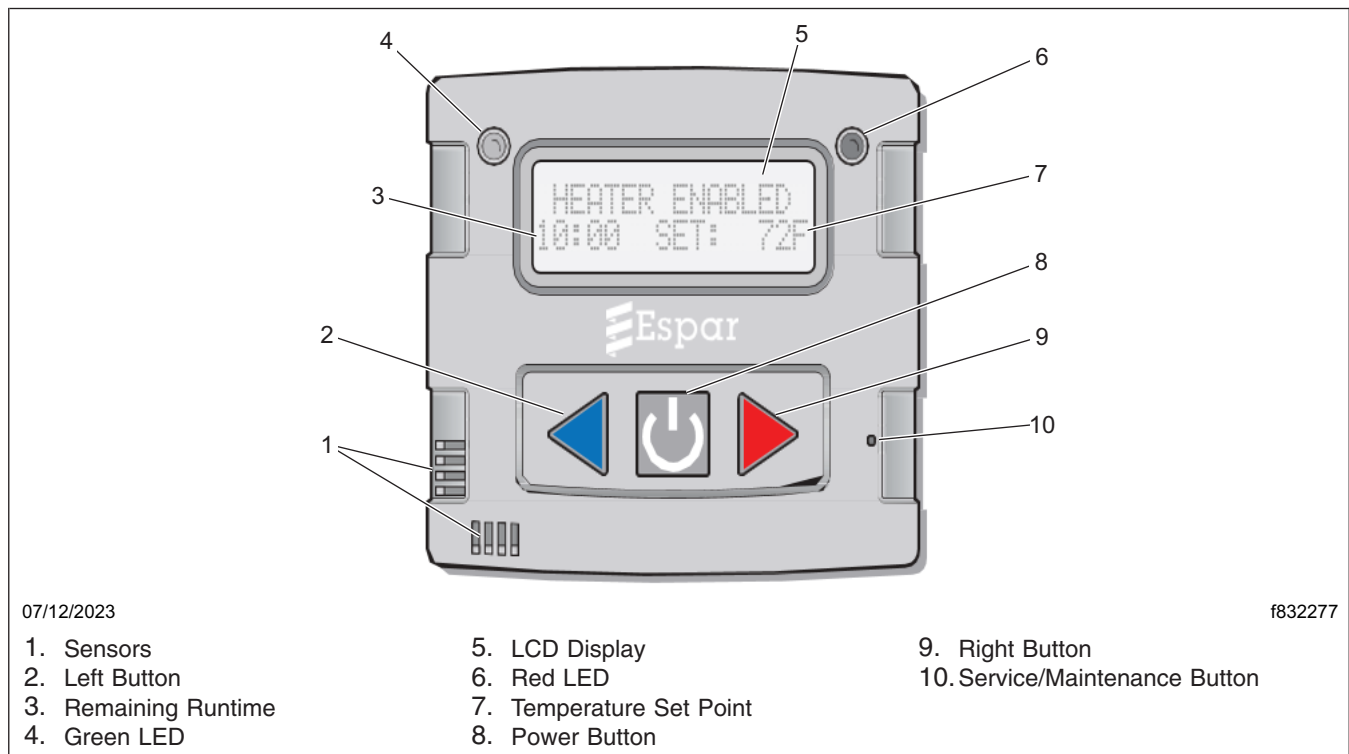

Fig. 17, Espar Digi-Max D1000 Controller
25. For vehicles equipped with a **Espar Digi-Max® D1000 controller (SF664A&C)**, shown in **Fig. 17** :